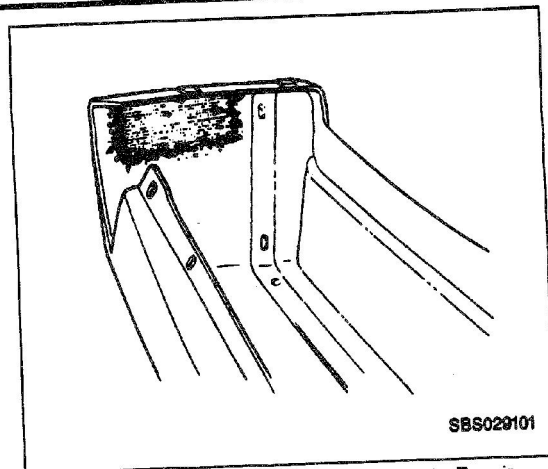

Figure 22—Fiberglass Cloth Application to Repair
5. Apply the precut fiberglass cloth to the adhesive and immediately cover the cloth with additional adhesive in sufficient quantity to fill the weave (Figures 22 and 23). Make sure the fiberglass cloth is completely saturated and there are no exposed fibers or trapped air pockets.